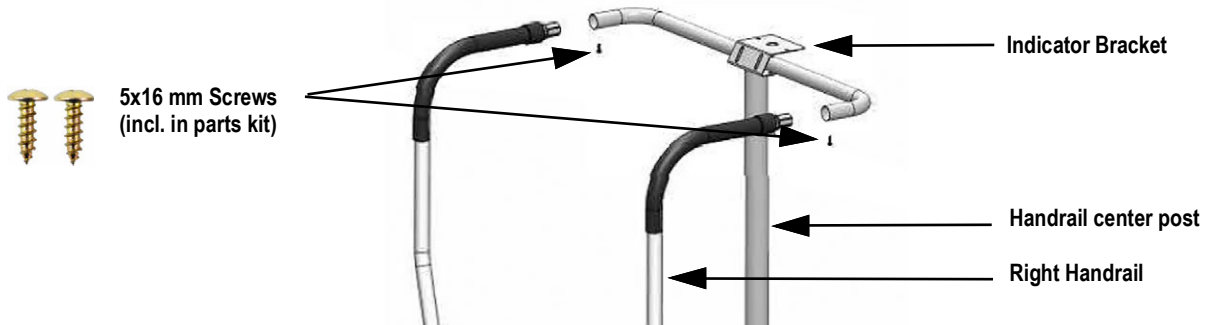

Figure 2-4. Handrail to Post Assembly
8. Insert the handles into the handrail post (Figure 2-4).